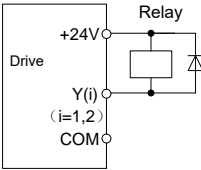

Fig. 6-21
- Wiring diagram of digital output terminal is shown as Fig. 6-21: